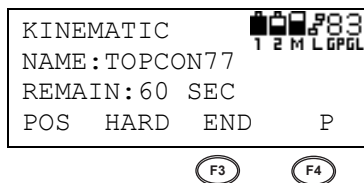

Figure 3-55. Static Observation Menu Selection
13. Press **F3** (END) to end the survey (Figure 3-55).